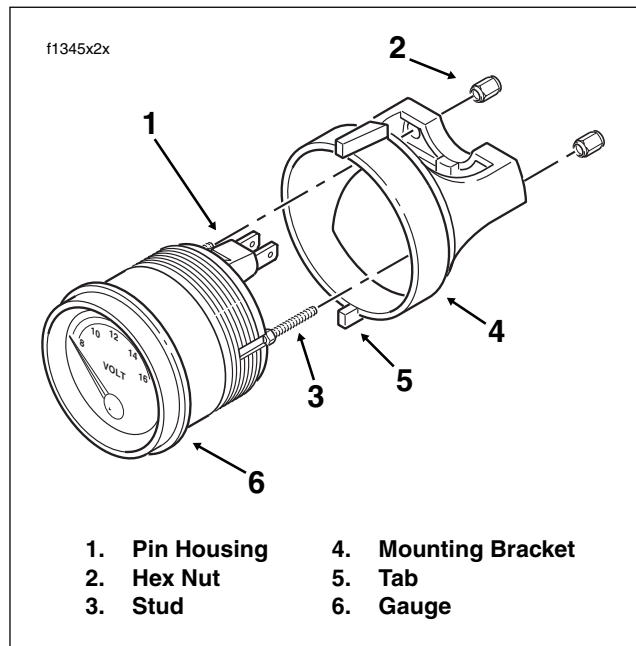

Figure 8-116. Voltmeter Gauge Assembly
To replace lamp, pull pin housing from gauge and then pull lamp from slot of pin housing. Install **new** lamp in slot and insert pin housing back into gauge. See Figure 8-116.
2. Slide mounting bracket over studs. Verify that tabs on top and bottom of bracket engage slots in inner fairing. See Figure 8-116.